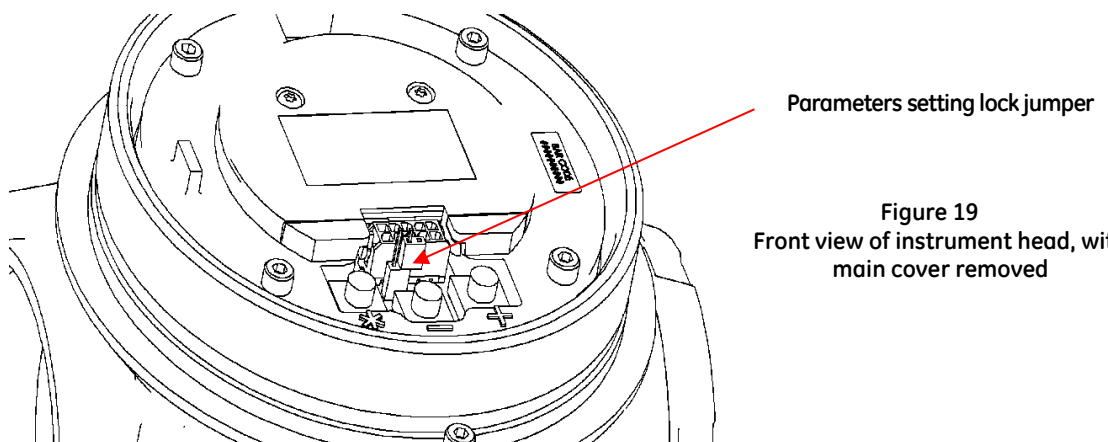

Figure 19
- a. Mount the torque tube (137) on a support. The knife pivot at the back of the tube must be oriented toward the top.
- b. On the transmission rod (138), mount the bias assembly (241).
- c. On the transmission rod (138), mount the coupling S/A (75) including flange (116), coupling flexure S/A (70) [incl. flexure (71), pin (72) and washer (73)], flange (117) and its two loosened screws (118) (see figure 19).